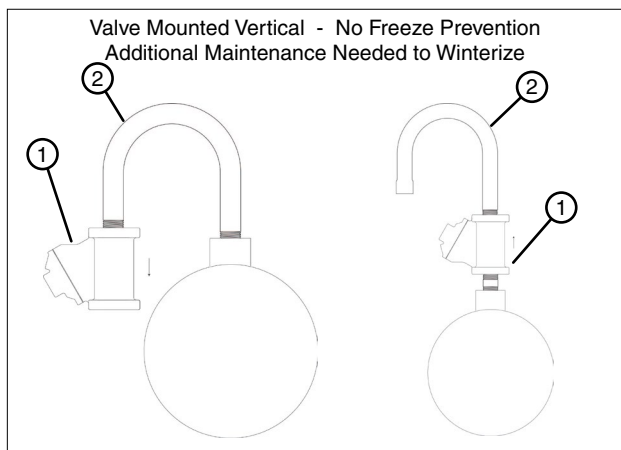

Figure 168-3 1. Aquamatic Valve
- Other plumbing configurations that might be used in regions where the temperature during the winter months stays above 40°F (4°C) are shown in Figure 168-3.
- The valve is mounted vertically which does not allow water to drain out of the valve or U-pipe. If temperatures drops below 40°F (4°C), turn the VRI option off and run the machine with water, this opens the valves (which can be visually inspected) to drain water and reduce the possibility of damage due to freezing. Refer to Figure 168-3.